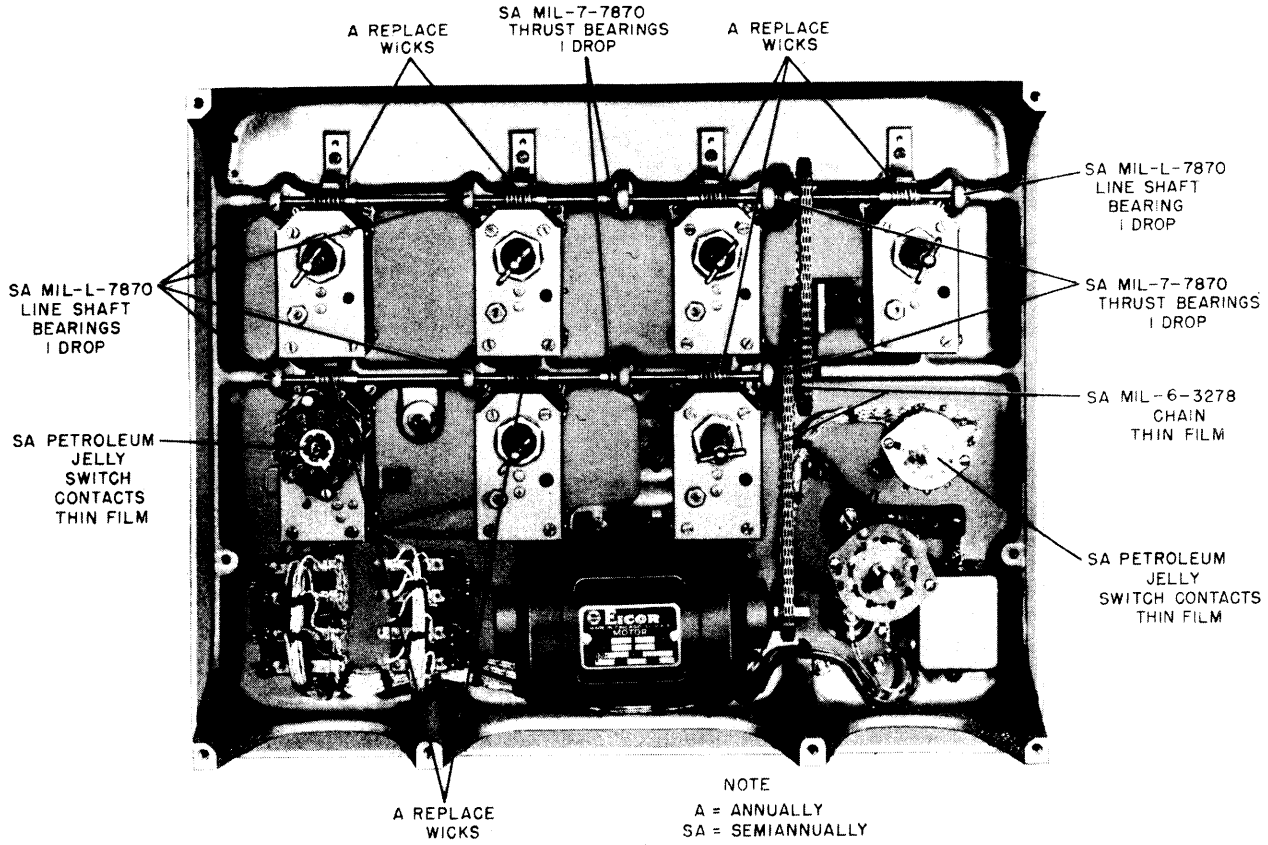

Figure 6-1. Autotune Casting Assembly, Lubrication Data
a. GENERAL.—Parts to be lubricated should be free of dirt and excessive lubricant. As much oil as the bearings will take should be applied to them, but any excess is undesirable. Grease is properly applied in an even, thin layer. For location of lubrication points, see figures 6-1 and 6-2.